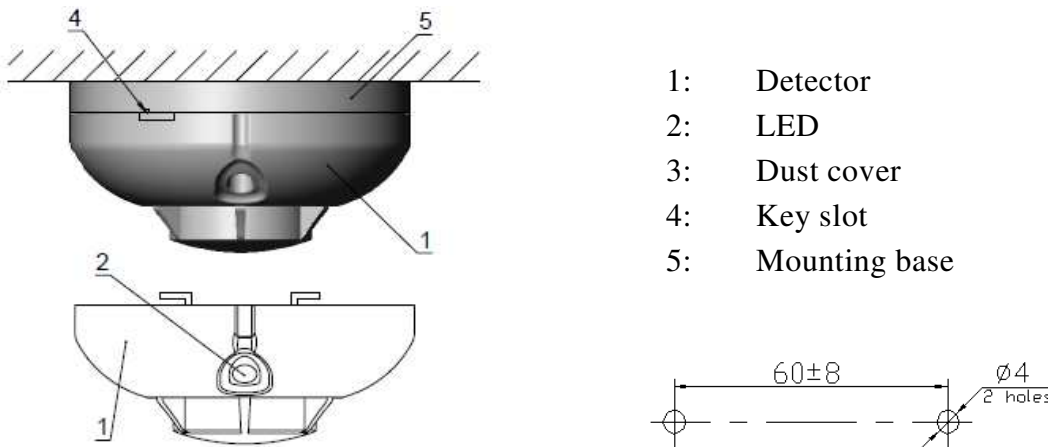

Figure 2
Figure 2 shows the detector's appearance and mounting dimensions for installing the detectors onto a flat surface (Variant A) and for using mounting kits MK-2 or MK-3 to attach the detectors to suspended ceiling tiles (Variant B).
2.2.3.2 The detector is to be mounted on the surface of bearing structures via its base, which is to be secured to the surface in accordance with the drilling template given in Figure 2.